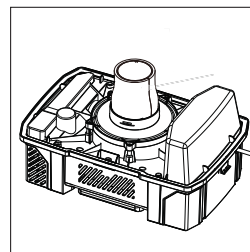

FIG. 4
- Remove cartridge filter and replace it with foam filter when you do wet pickups. (Fig. 4)